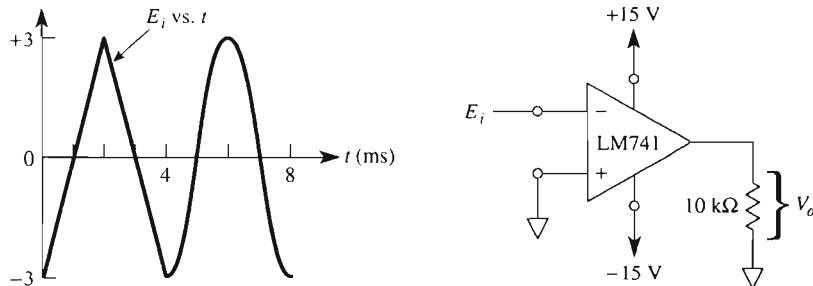

FIGURE P2-7
- 2-7. E_i is applied to the (−) input and ground to the (+) input of a 741 in Fig. P2-7. Sketch accurately (a) V_o vs. t and (b) V_o vs. E_i .
- 2-8. Swap the input connections to E_i and ground in Fig. P2-7. Sketch (a) V_o vs. t and (b) V_o vs. E_i .